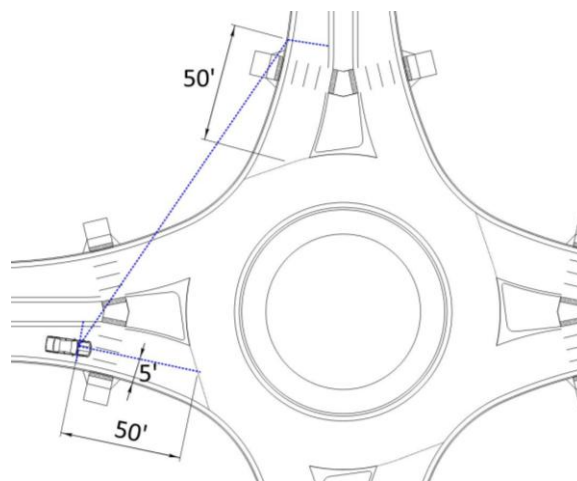

Figure 49 – Drawing the Entering ISD
3. Draw a line from the intersection of the offset face of curb line and the offset yield line to the intersection of the upstream offset yield line and the outside face of curb. See **Figure 49** for an example.